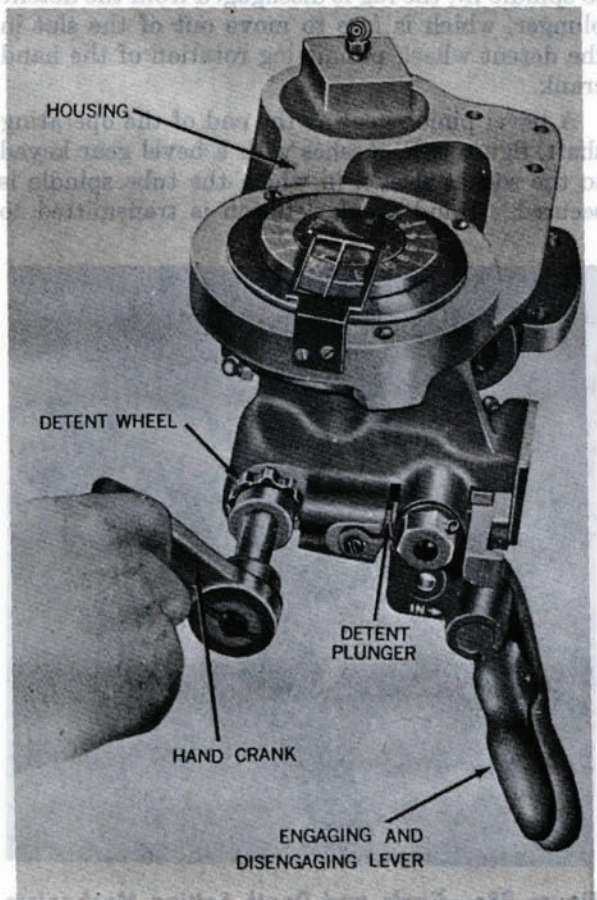

Figure 98d—Circle and Depth Setting Mechanism, Lower Left-Hand Tubes, Making Setting.
**Spindle Rotation.** The depth setting hand crank can be operated only when the engaging and disengaging lever is at spindle IN, figure 98D. When the spindle is OUT, figure 98E, the hand crank is locked by a detent plunger, one end of which is engaged by another lug on the engaging and disengaging lever. The plunger passes through an extension of the housing, between the lever and the hand crank. The other end of the plunger engages a slot in a detent wheel, fixed on a depth setting operating shaft connected to the hand crank. In this position, the detent plunger prevents rotation of the detent wheel and hand crank. When the engaging and disengaging lever is moved
Three dials, driven simultaneously by the operating shaft, are incorporated into the circle and depth setting mechanism. The outer dial, graduated from 0 to 50 feet, serves as an index for depth setting. To set the enabling (circle) distance into Torpedo Mk 16 Mod 7, the hand crank is turned (right or left) until the desired enabling distance is registered on the middle and inner dials. Two types of dial are in use. The dial shown in figure 98D, used for lower bow tubes and for lower stern tubes, has its graduations on the flat top surface to permit reading from above. The dial used for middle and upper bow tubes and upper stern tubes has its graduations on the outer circumference to permit reading from the side.